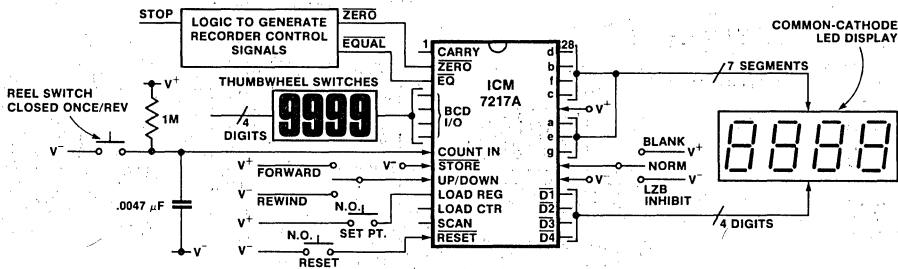

Figure 10: Recorder Indicator
5. TAPE RECORDER POSITION INDICATOR/CONTROLLER (Figure 10)